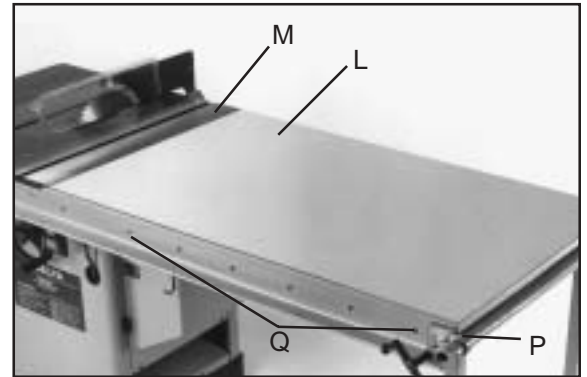

Fig. 12
9. Place table assembly (L) Fig. 12, in position between the two rails, as shown. Make sure end of table is flush against saw table (M). Using a straight edge make sure table (L) is in the same plane and level with saw table (M). Lightly tap up or down and adjust leg leveling screws. When you are certain table (L) is level and in the same plane with saw table (M) tighten bar clamp (P) to hold everything in position. Then drill 1/4" holes through the front and rear of the extension table using holes (Q) provided in rails as a template. **NOTE:** Number of holes (Q) in the front and rear rails will vary depending on the length of the rails you purchased.